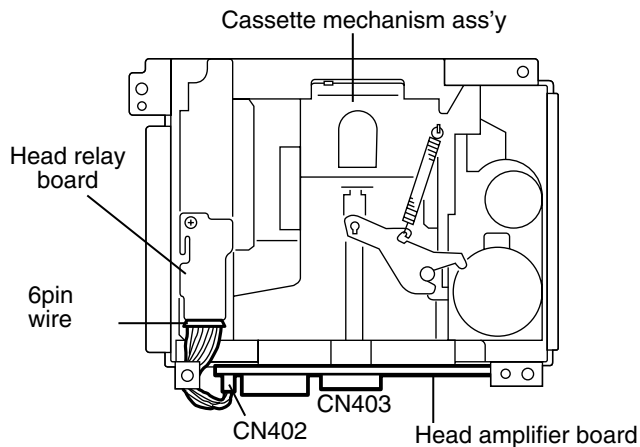

Fig.1
(See Fig.1 and 2)**
**■ Removing the cassette mechanism assembly (See Fig.1 to 3)**
1. Disconnect the 6pin wire from connector CN402 and the card wire from CN403 on the head amplifier board (Refer to Fig.1 and 2).